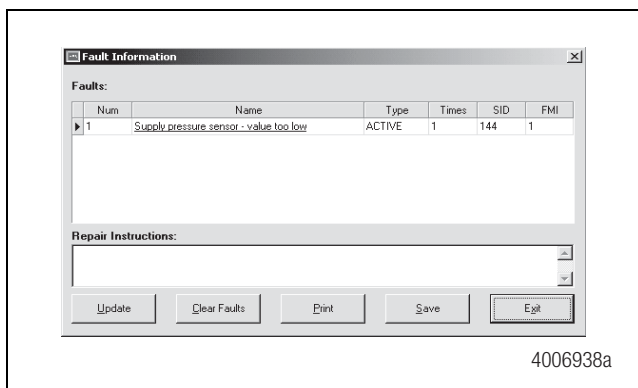

Figure 5.8
2. Select **Display Faults** from the pull-down menu. All active and stored faults are displayed. Figure 5.8.